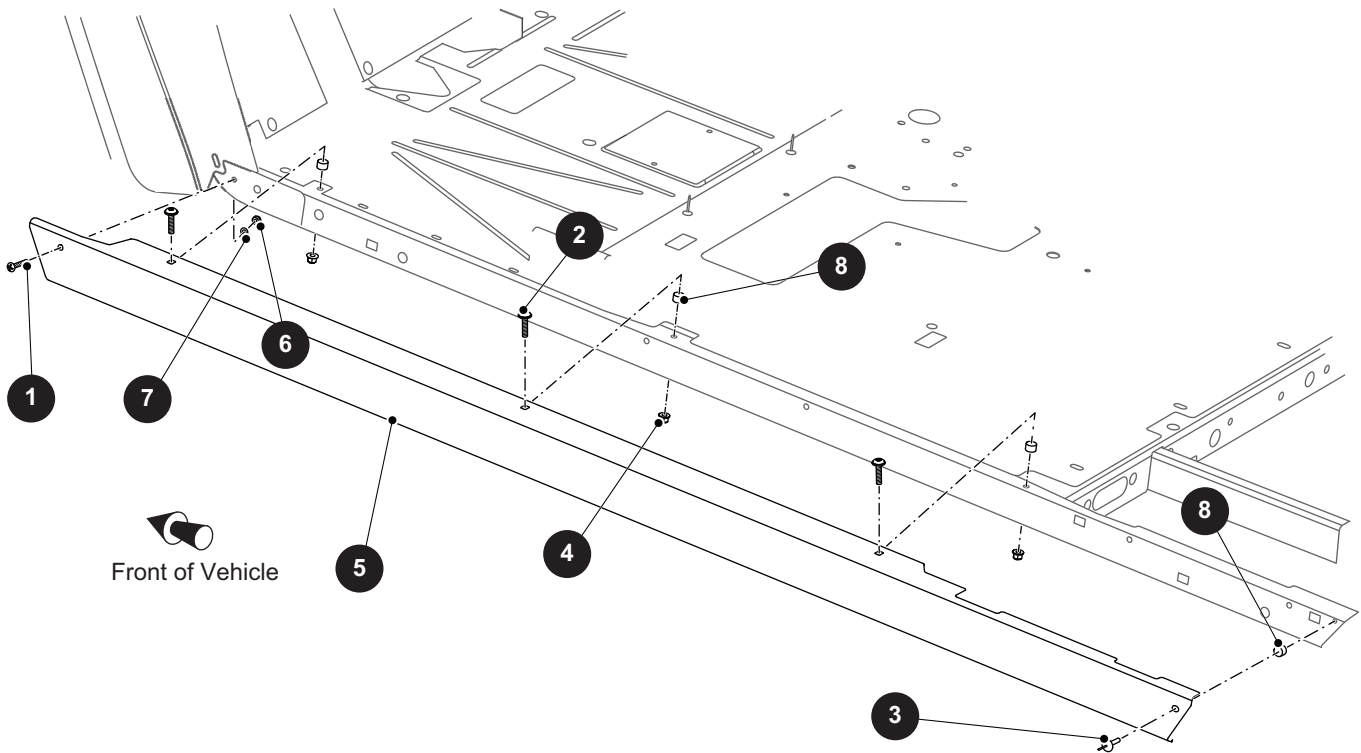

Fig. 4 Rocker Panel
1. Drill out the rivet (3) securing the rear of the rocker panel (5) to the frame.
2. Remove the lock nut (6), washer (7), and screw (1) securing the front of the rocker panel (5) to the fender flare.
3. Remove the remaining lock nuts (4), spacers (8), and screws (2) securing the rocker panel (5) to the frame (Ref Fig. 4).
1. Remove the lock nut (6), washer (7), and screw (1) securing the front of the rocker panel (5) to the fender flare (Ref Fig. 4).